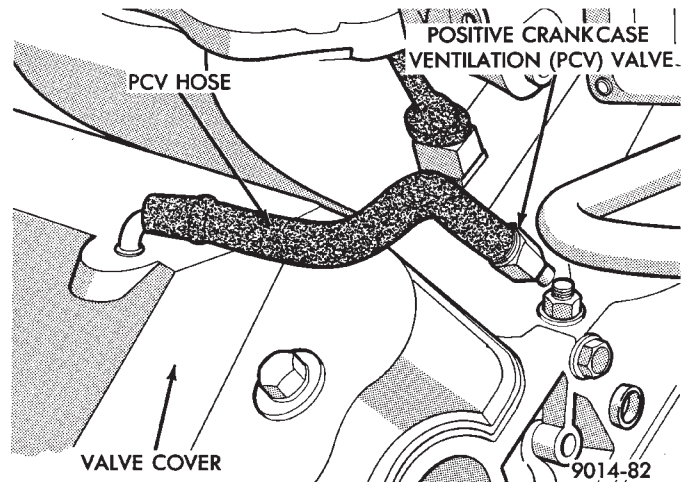

Fig. 11 Positive Crankcase Ventilation (PCV) System
(18) Check PCV hose connections (Fig. 11).